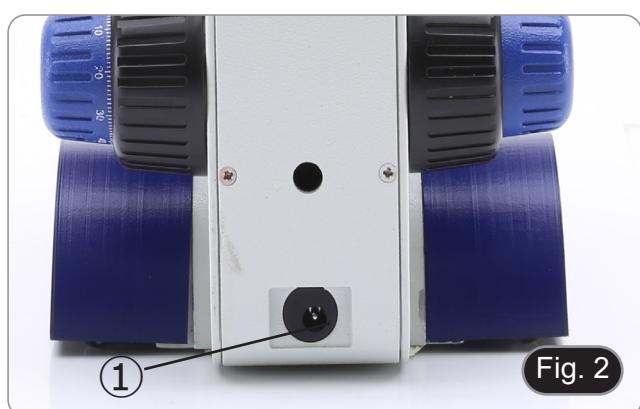

Fig. 2
4. Plug the jack of the power supply into the socket ① in the back side of the microscope. (Fig. 2)